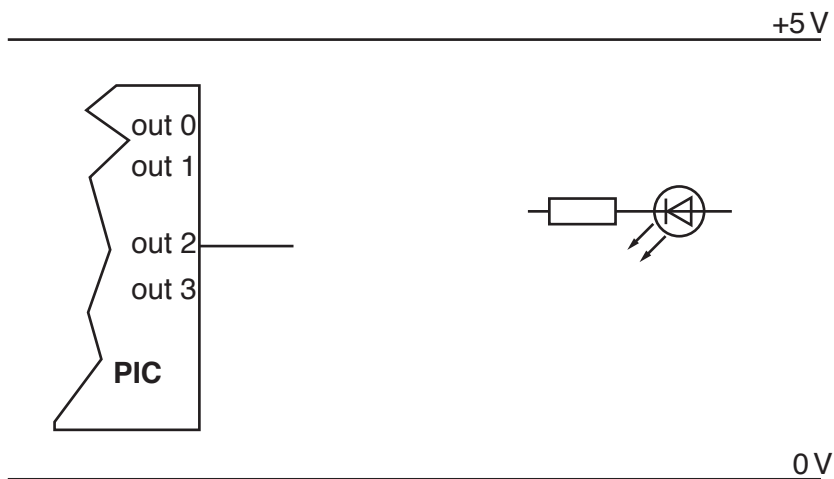

Fig. 18
- (ii) Complete Fig. 18 to show a circuit connected to output 2 that uses an NPN transistor to provide a higher current suitable for a high power LED.